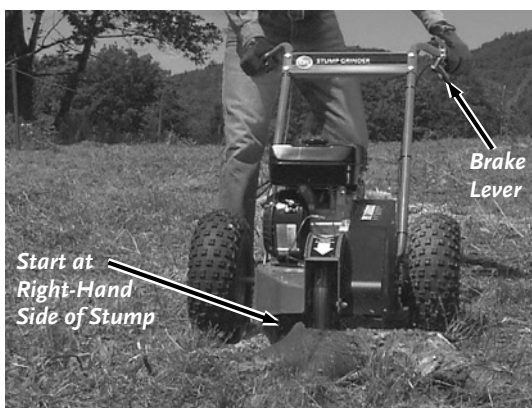

Figure 31
3. Move the Stump Grinder into position with the Cutter Head at the right side of the stump on the edge closest to you (not touching) near the top edge (Figure 31).